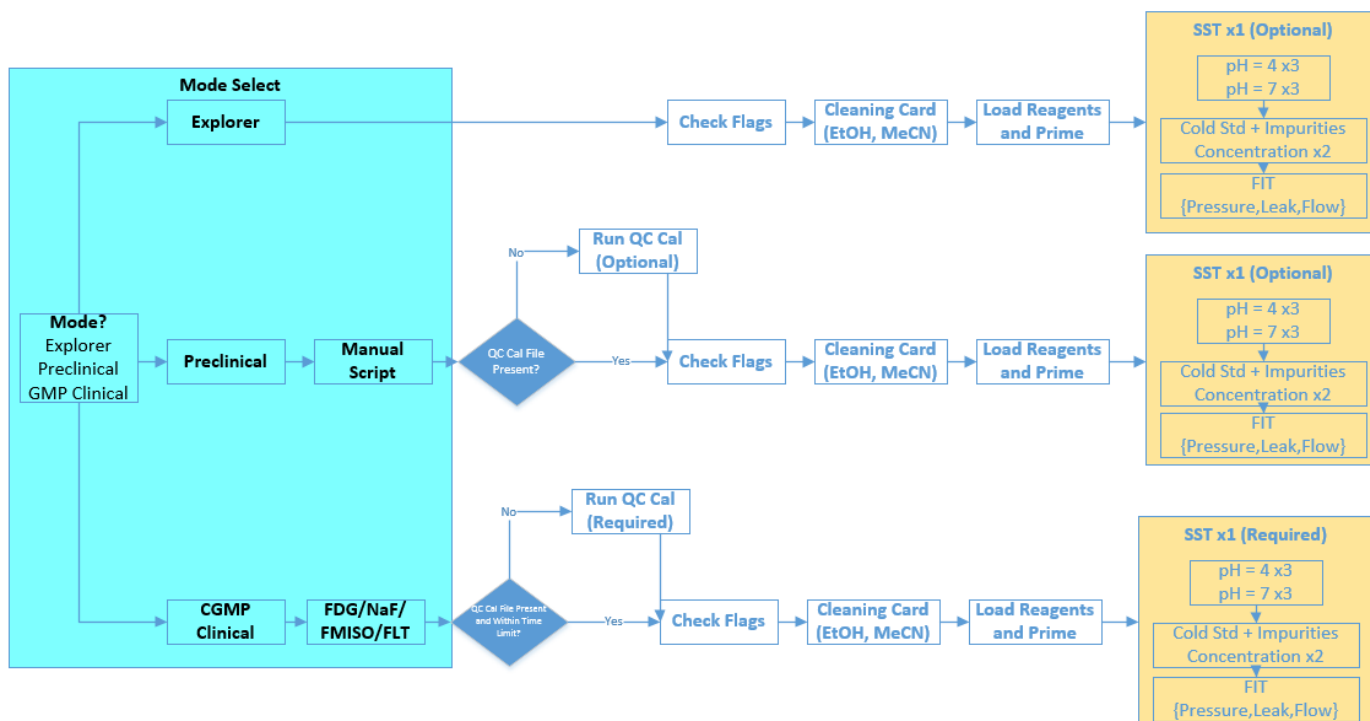

Figure 1. The three modes of operation of the BG75 MT CPM 2.0 system: Explorer, Preclinical, and CGMP Clinical.
The software has three modes of operation: (1) Explorer Mode that can be used for new tracer development, (2) a Preclinical Mode for preclinical research, and (3) CGMP Clinical Mode for human injection. F-18 can be produced in all modes. Figure 1 illustrates the differences between these modes. Explorer Mode does not check for a valid QC file or enforce the daily System Suitability Test (SST). Discovery Cards do not contain purification columns and are designed to distribute to a vial for HPLC based purification. The CGMP Clinical mode of operation is to be used for clinical injection of PET Radiopharmaceuticals. The CGMP Clinical Mode enforces a valid QC calibration file within 3 months of the run date and two SST residual solvent injections. The mode of operation is chosen at the start of the day. The mode can be changed by shutting down the system (45 minute procedure) and bringing it back up in another mode if multiple MT CPMs are not available on site.